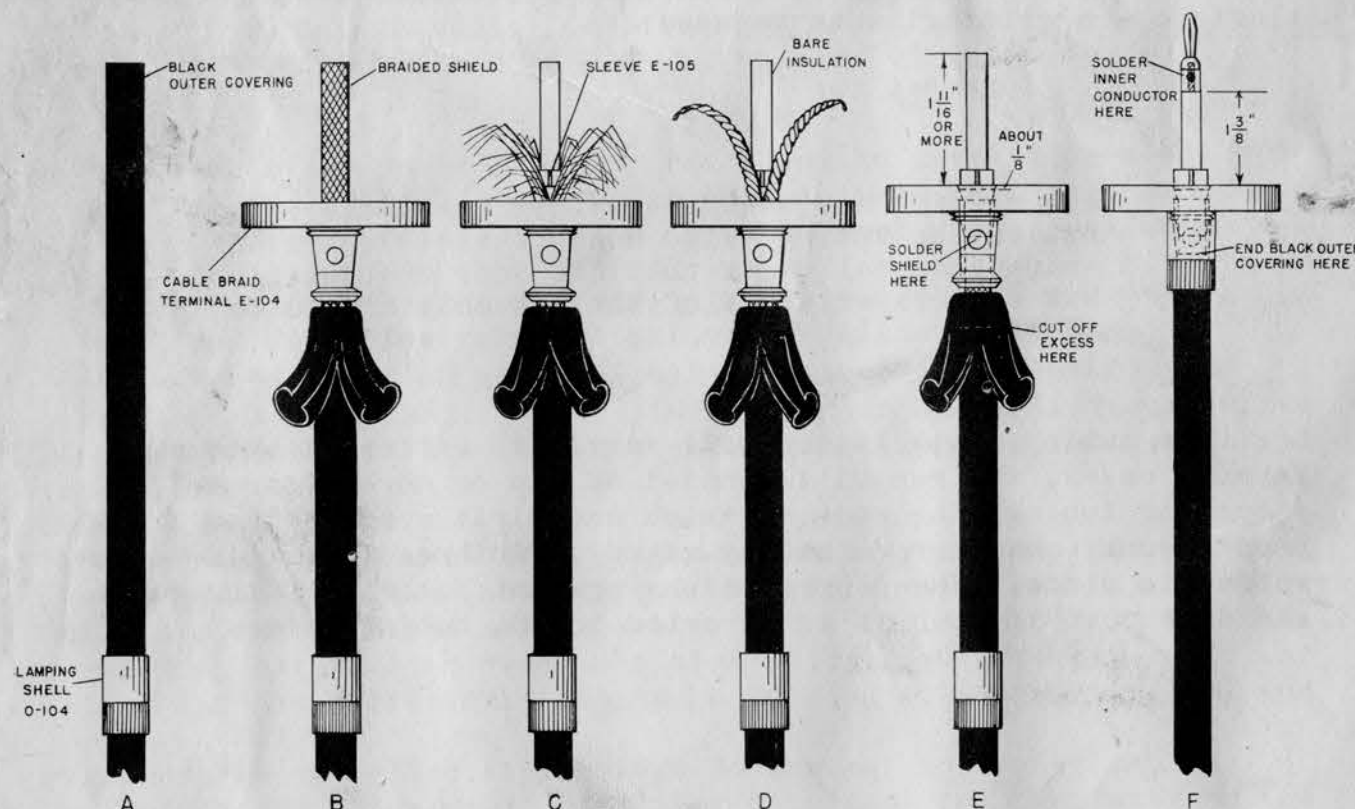

Fig. 2-5 Attachment of RG-8/U Cable to Cable-Braid Terminal and Banana Plug
The top end of the cable is to have its braid connected to the cable-braid terminal, and its central conductor connected to the banana plug P-101. The procedure is shown in Fig. 2-5 and consists of the following steps, which are lettered to correspond with the sketches in the figure:
(C) Fan out the braided shield for 1-3/8 inches from the top end of the cable, exposing the high-frequency insulation. Do not fan out the braid for more than this length. Slide the sleeve E-105, tapered end first, over the high-frequency insulation and pull up the cable-braid terminal, so that the braid is clamped between these parts and only 5/16 inch of the sleeve projects above the top of the cable-braid terminal. The upper flat surface of the cable-braid terminal is then 1-3/4 to 2 inches from the end of the cable. Refer to sketch C in Fig. 2-5.
(F) Measure 1-3/8 inches of the high-frequency insulation from the top of the cable-braid terminal, as shown in F of Fig. 2-5, and remove the remainder. Cut off the inner conductor as necessary to leave 1/4 inch of the bare conductor. The diameter of the inner conductor may be too large to go into the hole in the bottom of the banana plug. If so cut off one or more of the strands flush with the end of the high-frequency insulation. Wrap a little wet string around the base of the inner conductor to protect the high-frequency insulation from heat and then tin the inner conductor. Then insert it into the plug. Apply solder now thru the soldering hole in the side of the banana plug, working quickly with a very hot iron, thus soldering together the inner conductor and the plug. The black outer insulation previously pulled down should now be brought up again and part of it cut away so that it ends just under the solder holes in the cable-braid terminal. Screw up the clamping shell. This completes the attachment of the cable to the cable-braid terminal and to the banana plug.